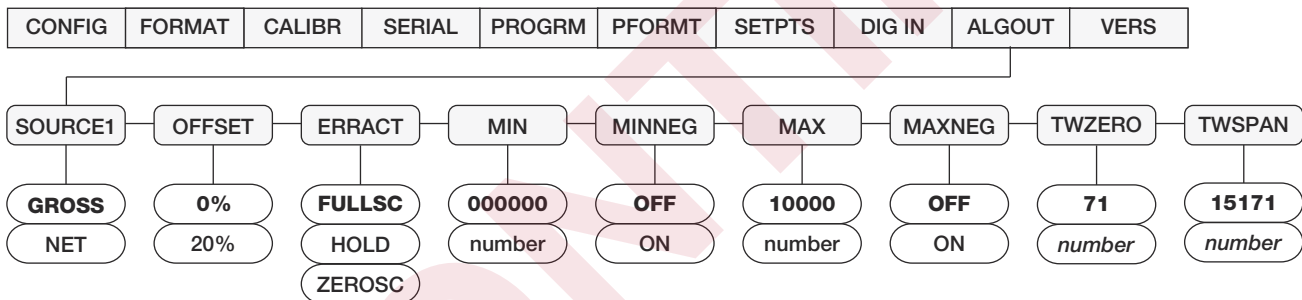

Figure 4. Analog Output Menu
- Enter setup mode and go to the ALGOUT menu (see Figure 4):